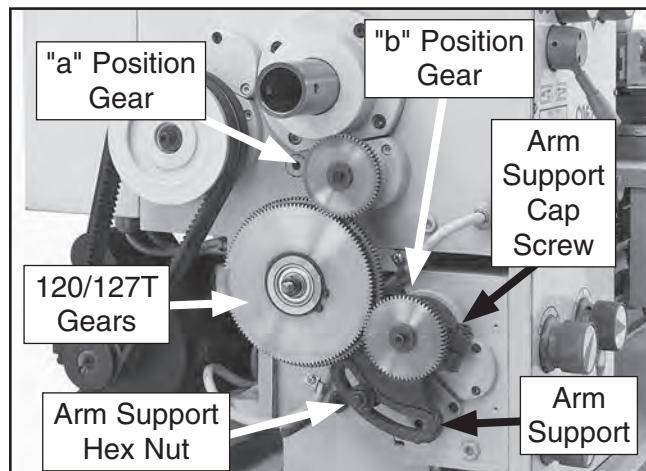

Figure 72. Arm support and end gears.
4. Loosen arm support cap screw shown in **Figure 72**.
- Secure arm support cap screw (see **Figure 72**).